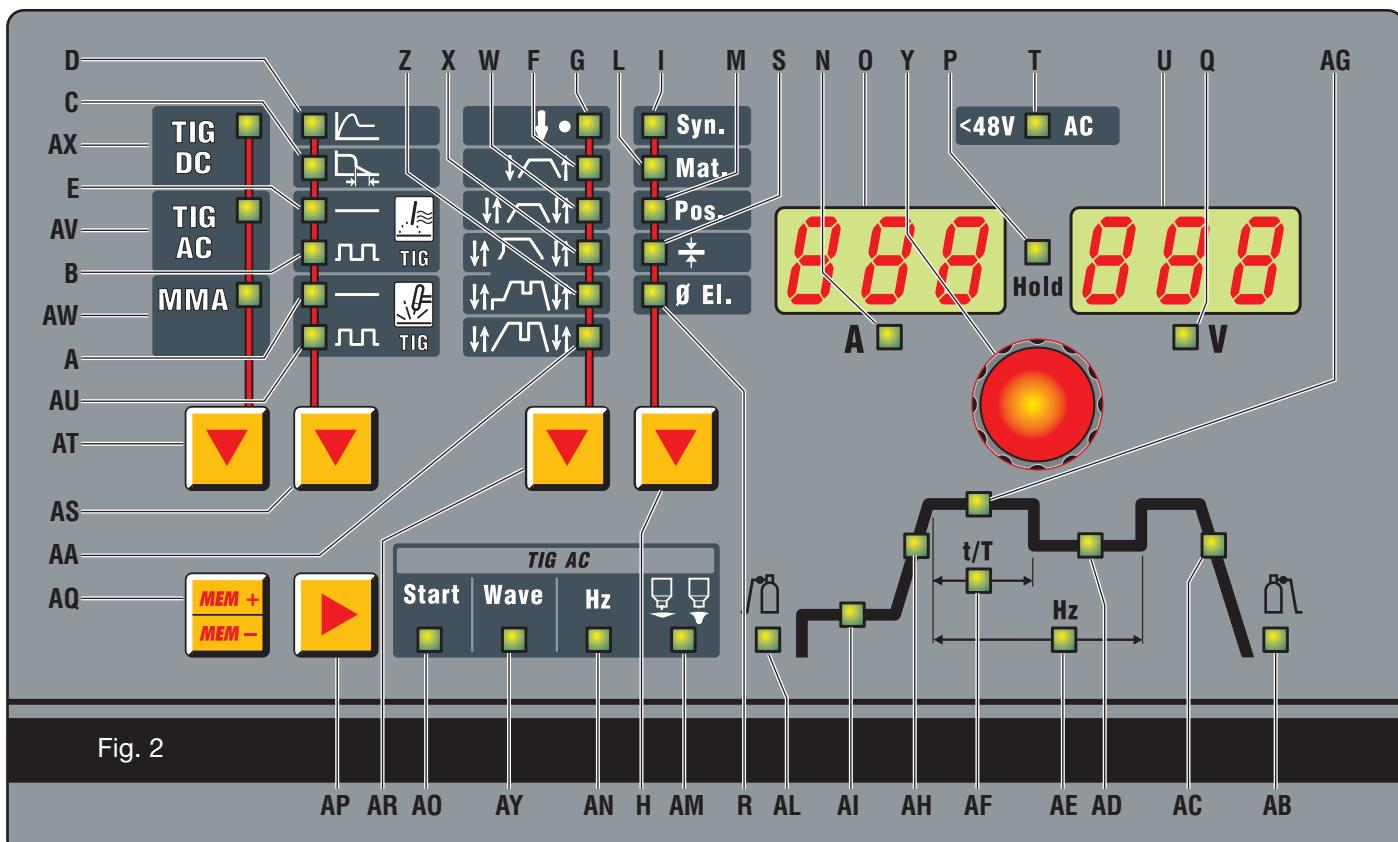

Fig. 2
3.3 DESCRIPTION OF THE PANEL (Fig.2).